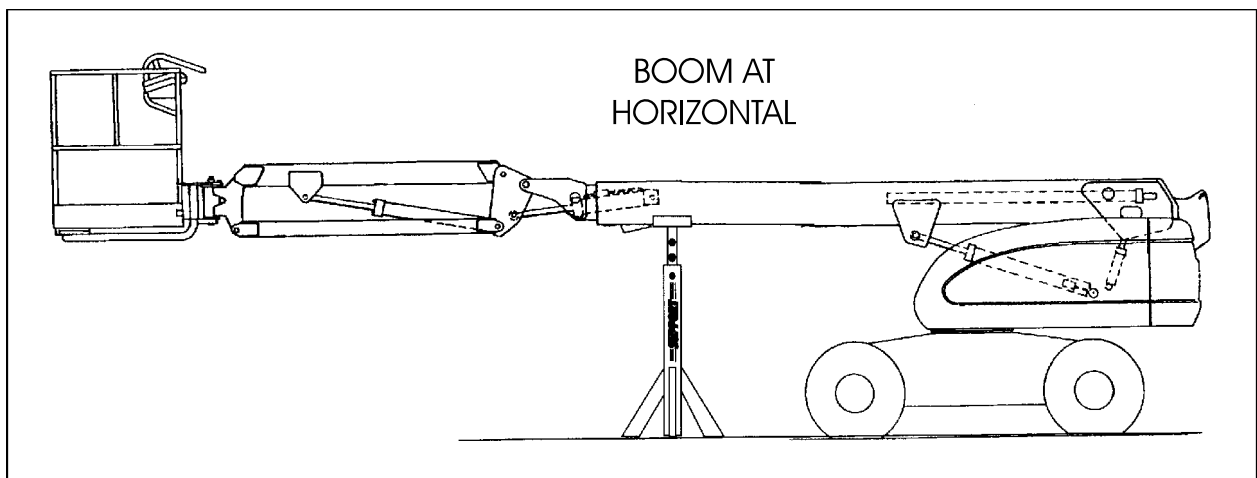

Figure 5-1. Boom Positioning and Support, Cylinder Repair
2. Shut down engine. Support main boom basket end with a prop. (See Figure 5-1., Boom Positioning and Support, Cylinder Repair).
1. Place the machine on a flat and level surface. Start the engine and place the main boom in the horizontal position. Shut down engine and prop the boom. (See Figure 5-1., Boom Positioning and Support, Cylinder Repair)